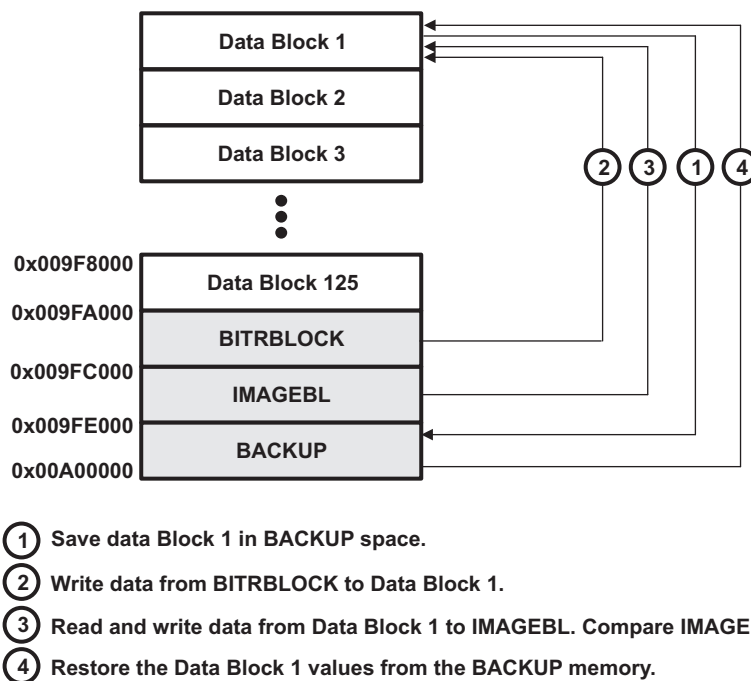

Figure 3. MemoryEdmaTest() Module Flowchart
Figure 3 describes the internal memory test process for Data Block 1. This process is repeated until all 2x8 level 1 and 253 level 2 local blocks have been tested.
- Step 1. Save the 32-bit address number Addna (see Figure 3) at address Addna; when $n = 1$, Add1a = 0x000FA000.
- Step 1. Compare the address number Add_{na} (see Figure 3) with the value contained at address Add_{na} (Value_{na}); when n = 1, Value_{1a} = 0x000FA000.